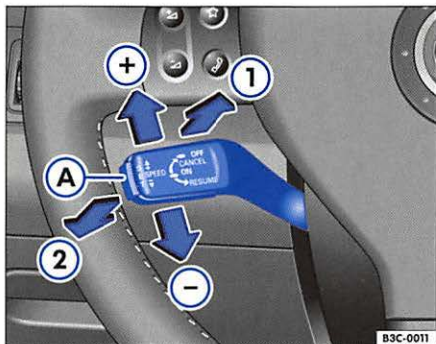

Fig. 90 Cruise control system controls
- Pull the lever in the direction $\Rightarrow$ fig. 90 ① until it engages to switch the system on. The indicator light **CRUISE** or in the instrument cluster comes on when cruise control is switched on.